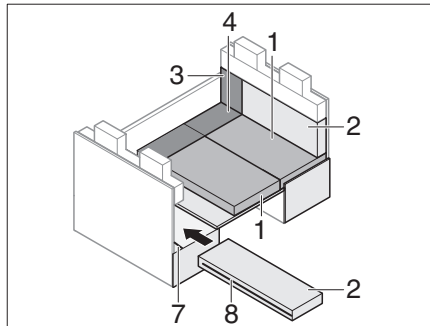

Fig. 210 During conversion
- Open the zip (Fig. 210,8) at the back cushion.
- Put the recess in the back cushion over the ISOFIX traverse (Fig. 210,7).